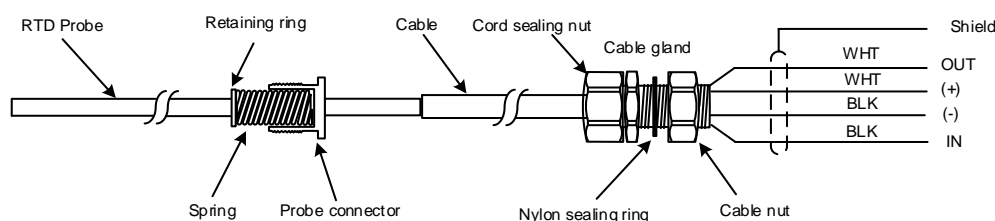

Figure 23: RTD probe
2. Using snap-ring pliers, adjust the retaining ring below the spring on the probe (Figure 23). Probe depth should be set so that it is spring-loaded against the bottom of the thermowell.